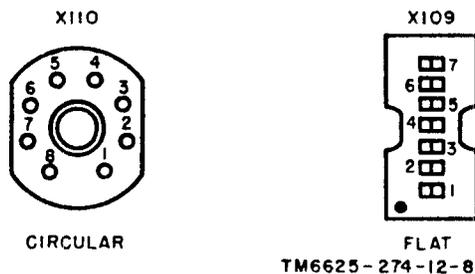
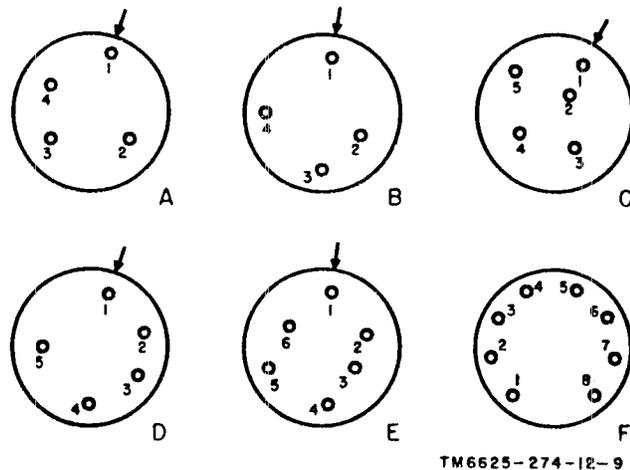

Figure 9. Top view of sockets X109 (flat) and X110 (circular).
Figure 10. Basing diagrams for subminiature tubes (letters, A, B, C, D, E, and F identify basing for use with test data book).
Subminiature tubes are tested in SUB. MIN. sockets X109 and X110 (fig. 9).
- (1) Several basing arrangements (fig. 10) are used for these tubes. The arrows near several of the tube bases in figure 10 indicate the location of the dot on the base of the tube. Check the *Notations* column in the test data book; examine the tube and identify the basing. Use adapter E104 (par. 16a) when the subminiature tube has long leads.
(2) Insert the leads or pins in the corresponding contacts of socket X110. If the leads are long enough, set the POWER switch to the OFF position, grasp each lead about one-eighth inch from its end with the tips of a pair of long-nosed pliers, and insert the leads into the proper socket contacts. Set the POWER switch to the ON position and test the tube.
b. Subminiature tubes of the flat or in-line-contact type with pins or leads are tested in flat socket X109 (fig. 9). The tube pins or leads must be inserted so that the dot on the base of the tube is directly in line with the small, molded dot on the socket.
c. Subminiature tube types are identified in the test data book by a star beside the type number. The applicable basing for the various round types is indicated in the *Notations* column. The basing designation letter refers to the diagrams shown in figure 10.